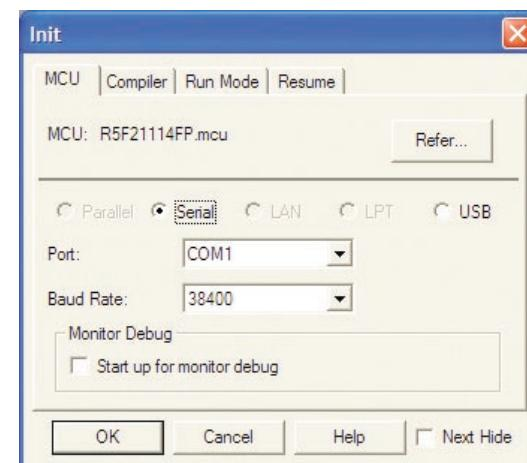

Figure 4. KD30 Init Window
- Click on the debugger icon  to launch the KD30 debugger from HEW. The “Init” dialog box should open (Figure 4).